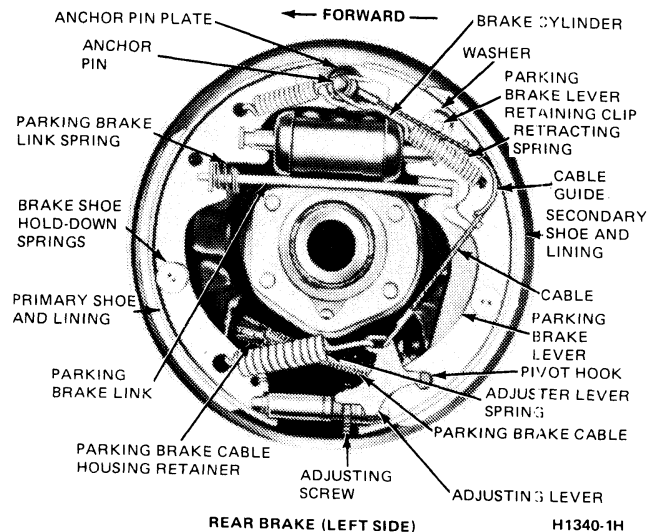

FIG. 10 Self Adjusting Brake Assemblies
- a. Disengage the adjusting lever from the adjusting screw by pulling backward on the adjusting lever cable (Fig. 10).
6. Remove the cable guide from the secondary shoe (Fig. 10).
9. Remove the brake secondary shoe and disassemble the parking brake lever from the shoe by removing the retaining clip and spring washer (Fig. 10).
4. Position the brake shoes on the backing plate, and install the hold-down spring pins, springs, and cups. Install the parking brake link, spring, and washer. Connect the parking brake cable to the parking brake lever (Fig. 10).
7. Install the cable guide on the secondary shoe web with the flanged holes fitted into the hole in the secondary shoe web. Thread the cable around the cable guide groove (Fig. 10).
8. Install the secondary shoe-to-anchor (long) spring (Fig. 10).
13. Pull the adjuster lever, cable and automatic adjuster spring down toward the rear to engage the pivot hook in the large hole in the secondary shoe web (Fig. 10).